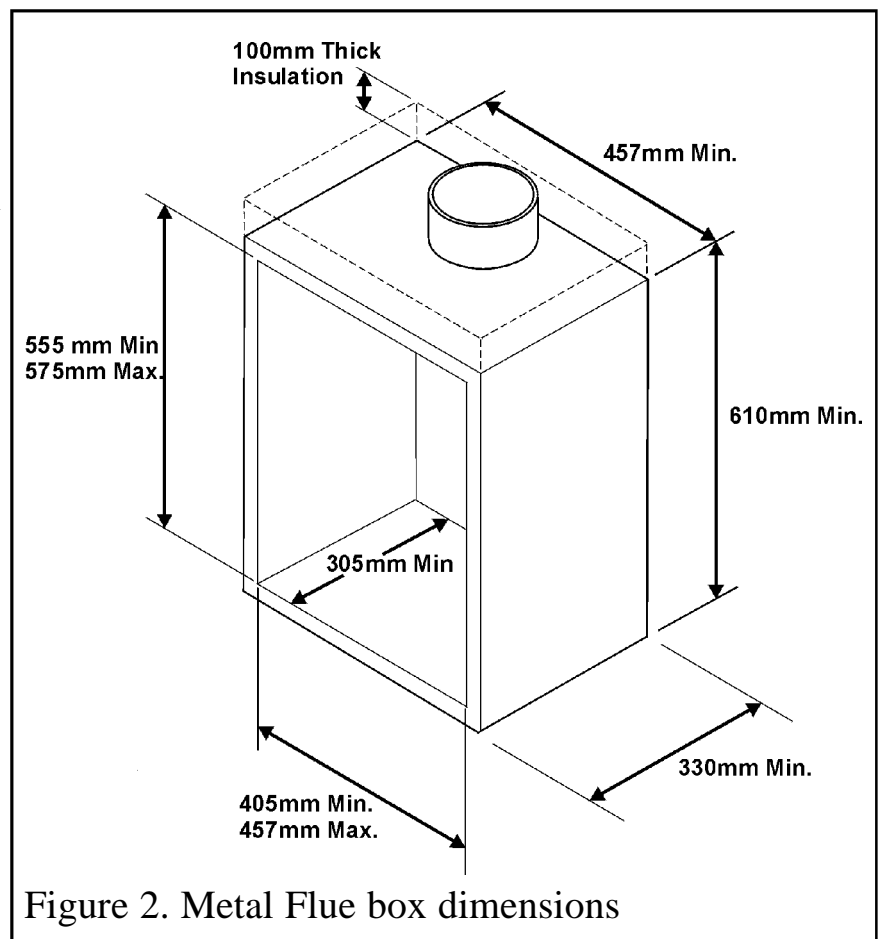

Figure 2. Metal Flue box dimensions
3.2.2 To a fireplace incorporating a metal flue box complying with the constructional requirements of the current edition of BS715. The dimensions of the flue box must conform to those shown in figure 2.